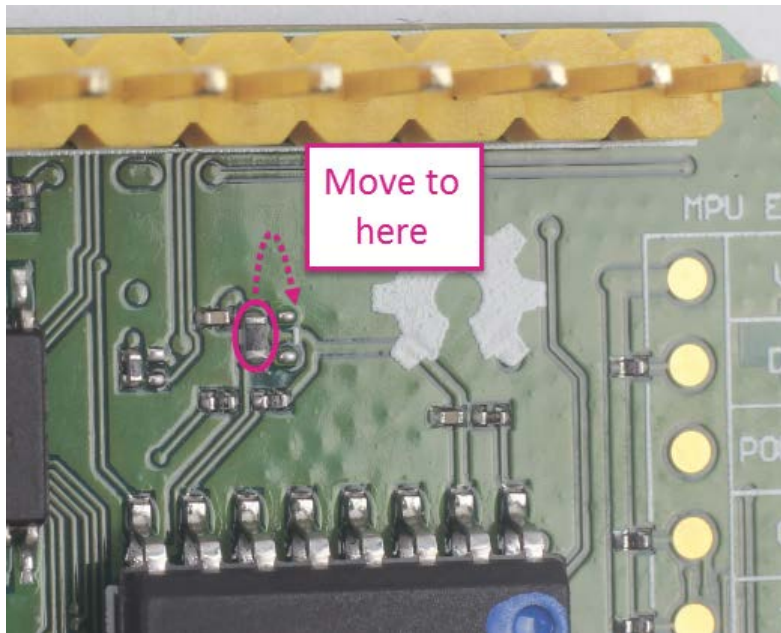

Figure 5 Moving a resistor to access JTAG mode
- 2) Move a resistor by unsoldering and soldering it to a position to the right as shown in Figure 5, after you've finished moving the resistor, restart the device and you should be able to activate the JTAG mode.